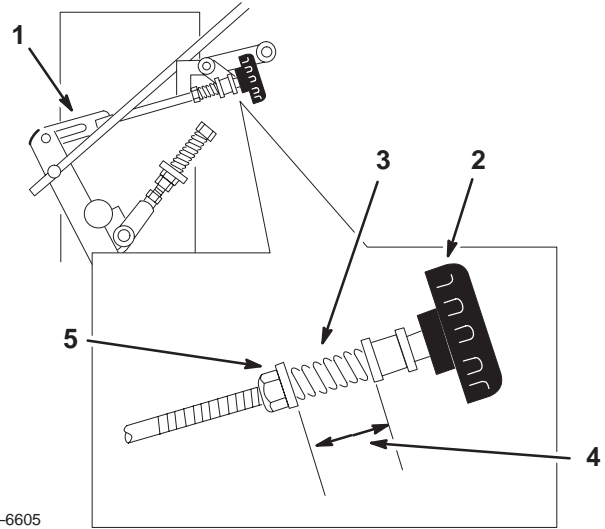

Figure 49
4. Adjust the right side linkage by turning the quick track knob counterclockwise until the tire begins to rotate forward (Fig. 49).
5. Turn the knob clockwise 1/4 of a turn at a time. Then move the speed control forward and back to neutral. Repeat this until right wheel stops rotating forward (Fig. 49).
6. The spring that keeps tension on the knob should normally not need adjustment. However, if adjustment is needed, adjust the length of the spring to 1 inch (26 mm) between the washers (Fig. 49).
7. Adjust spring length by turning the nut at the **front** of the spring (Fig. 49).